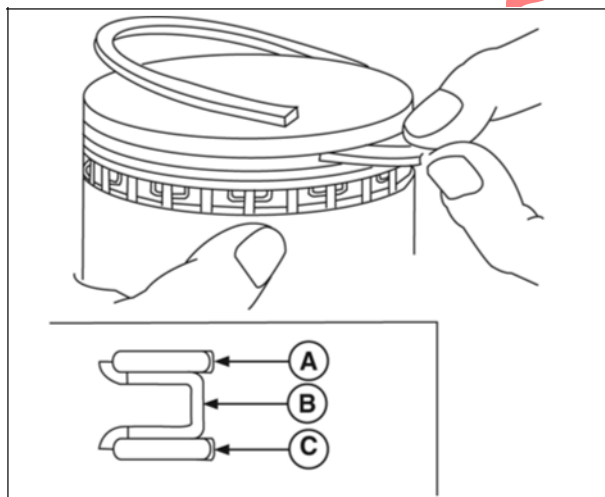

Figure 12
2. Spiral bottom oil control ring into top ring groove, center ring groove, and then into position below expander (Figure 12).